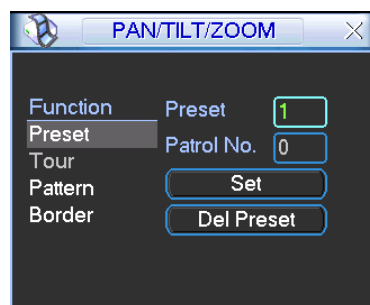
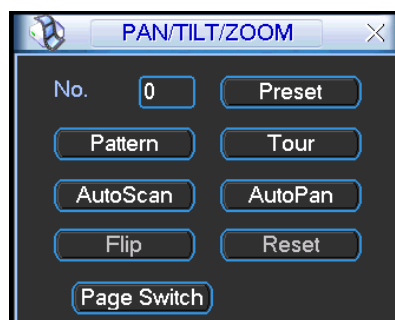

Figure 4-45
Figure 4-46
In Figure 4-42, please click the “set” button. The interface is shown as below. See Figure 4-45. Here you can set the following items:
In _ Figure 4-42, click page switch button, the interface is shown as in Figure 4-46. Here you can activate the following functions:
- The following setups are usually operated in the _Figure 4-42, Figure 4-45 and Figure 4-46.
In Figure 4-45, click preset button and input preset number. The interface is shown as in Figure 4-47.
In Figure 4-46, please input preset number in the No. blank, and click preset button.
In Figure 4-45, input patrol (tour) number in the No. blank and click patrol button
In Figure 4-45, click pattern button and then click “begin” button. The interface is shown as in Figure 4-49. Then you can go to Figure 4-42 X to modify zoom, focus, and iris.
In Figure 4-46, click “Auto Scan” button, the system begins auto scan. Correspondingly, the auto scan button becomes Stop button. Click stop button to terminate scan operation.
In Figure 4-46, click page switch button, you can see an interface is shown as below. See Figure 4-51. Here you can set auxiliary function. The aux value has relation ship with the Aux button of the decoder.